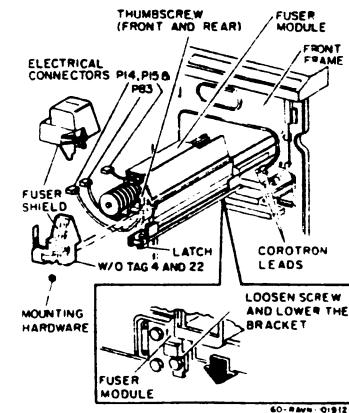

Figure 3. Removing the Fuser
- a. Remove fuser shield (Figure 3).